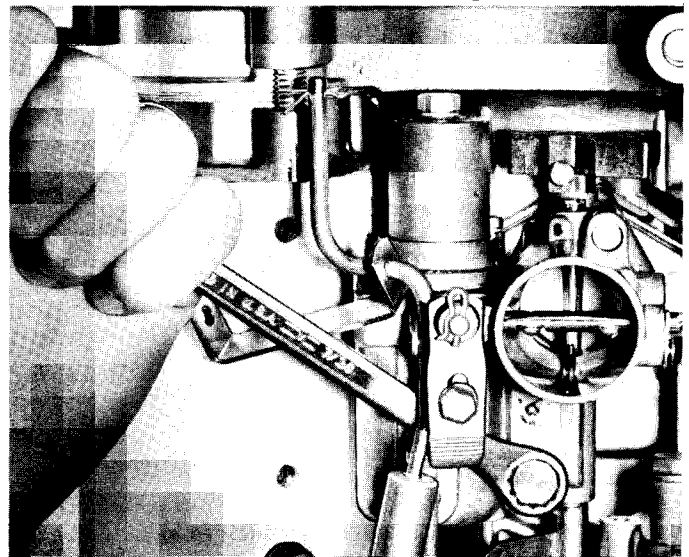

Figure 3. Removing Plug
1. Remove brass hex head plug and gasket from carburetor body with 3/8" wrench. (Figure 3)